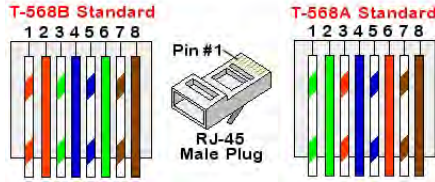

Figure 37: Standard cable wiring
- c. Insert the eight wires into an RJ45 connector, as described in *Figure 37*.
7. For the switch/router side, use a pre-terminated cable or use a crimper to prepare an RJ45 communication connector: Insert the eight wires into the RJ45 connector in the same order as above (*Figure 37*).